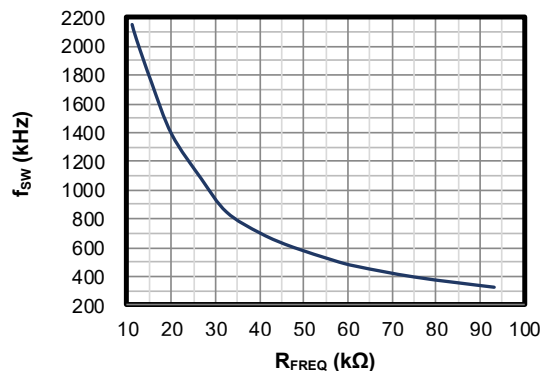

Figure 1:  $f_{SW}$  vs.  $R_{FREQ}$
7. The MPQ4317's switching frequency ( $f_{SW}$ ) can be configured by R3, the FREQ pin's resistor ( $R_{FREQ}$ ). R3 can be estimated based on the relationship between  $f_{SW}$  and  $R_{FREQ}$  (see Figure 1).